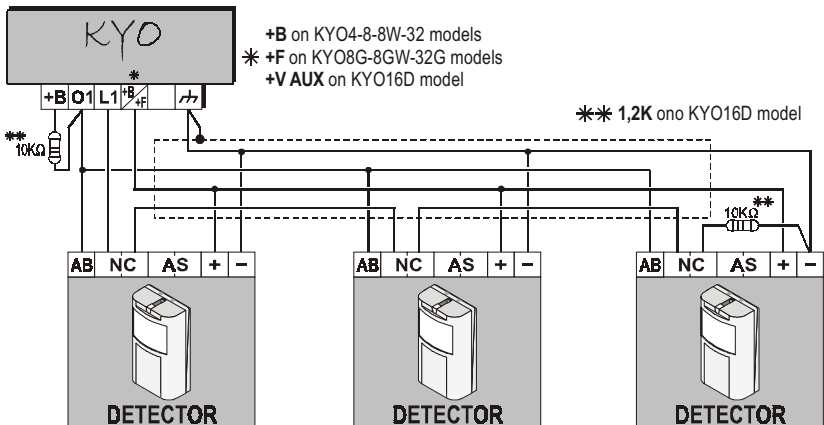

Figure 2.7 - Connecting detectors with Alarm memory (terminal AB) activated by a Positive signal
**Memory function** The Memory function is useful when several detectors are connected to the same Alarm line (see Figure 2.7) as, in the event of an Alarm, it will allow you to trace the violated zone.
Both functions can be enabled by a Positive or Negative signal, depending on the detector. The Wiring diagram in Figure 2.7 shows three Bentel LB612 detectors with Memory function (terminal [AB]) which will be activated by a Positive signal. In a connection of this type, one of the three OC outputs (see terminal [O1]) must be programmed to disable the Walk Test mode during standby status.